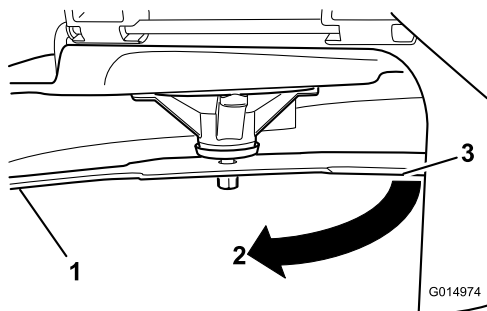

Figure 55
3. Measured distance between blade and the surface (A)
4. Rotate the same blade 180 degrees so that the opposing cutting edge is now in the same position (Figure 55).